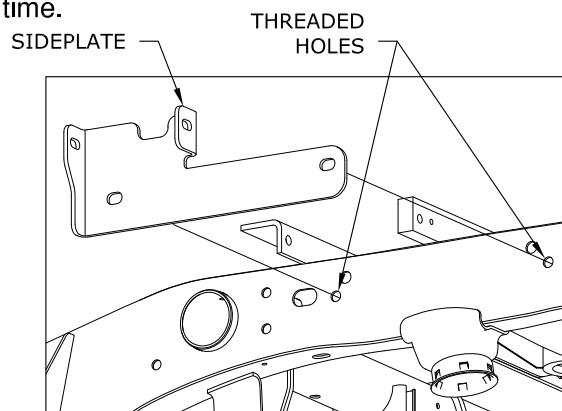
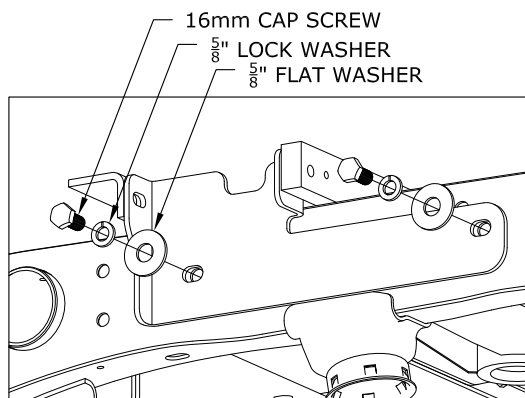
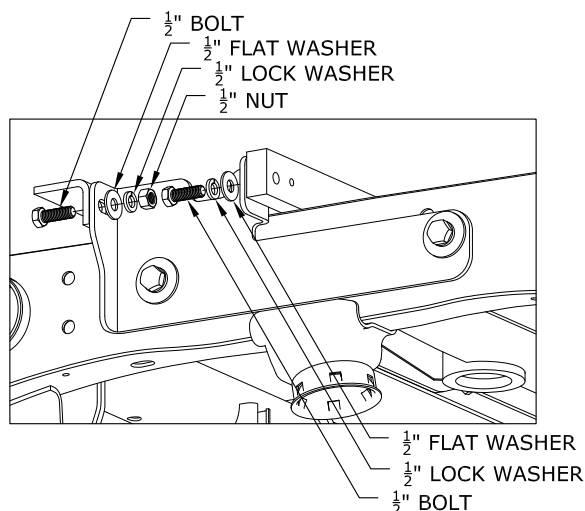

Figure C1: View from outside of Driver Side Frame
Figure C2: View from outside of Driver Side Frame
Figure C3: View from outside of Driver Side Frame
1. **Install the sideplates.** Place each sideplate against the frame so that the flanges are between the front and rear crossmember, see Figure C1. Attach each sideplate to the frame with two 16mm cap screws, $\frac{5}{8}$ " lock washers and $\frac{5}{8}$ " flat washers. The 16mm cap screws will screw into pre-existing threaded holes in the frame, see Figure C2. Attach the sideplate to the front and rear crossmembers with $\frac{1}{2}$ " Bolts, flat washers, lock washers and nuts, as shown in Figure C3. Do not fully tighten the sideplate hardware at this time.